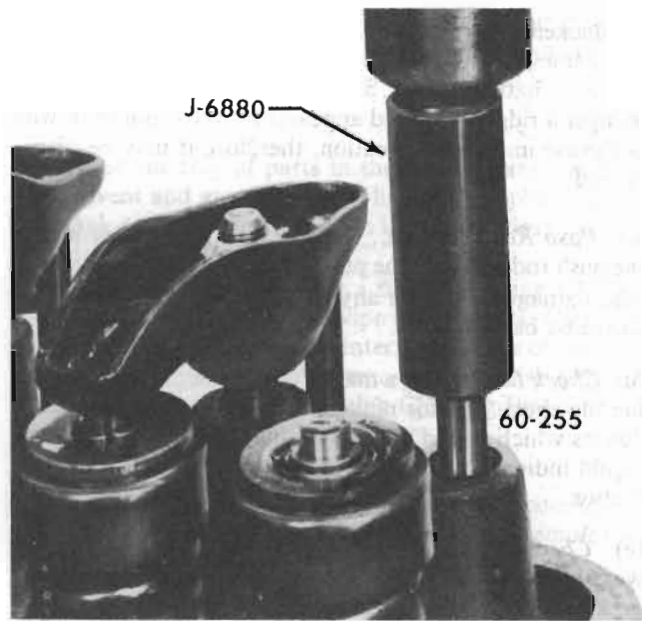

Figure 60-18 - Installing Rocker Arm Stud
2. Install new O.S. stud as shown in Figure 60-18, tool should bottom on head.